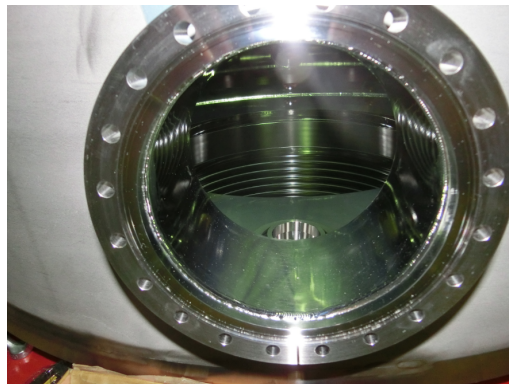

Fig. 6: View from a duct just above a hydraulic piston.
- Open the cap of the top chamber and place it somewhere. Also open flanges of the top chamber just above the hydraulic pistons so that the position of the IP legs are visible during the installation (Fig. 6).